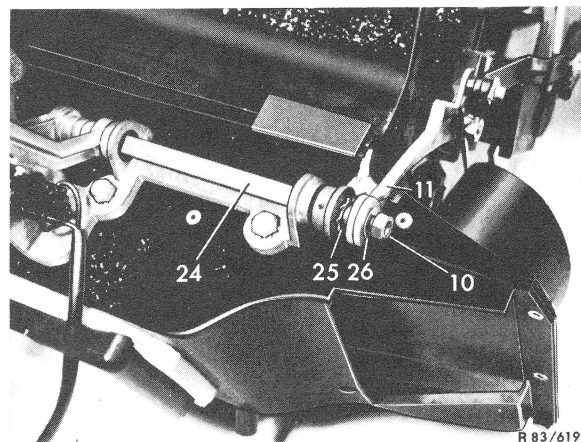

Fig. 8
**Note:** When adjusting the connecting lever (11) (Fig. 8) without assembly aid (23), push both flap actuations in direction of arrow up to stop and hold in this position. The assembly aid is inserted only in replacement heater box.
**34** Place serrated washer (25) and connecting lever (11) on actuating lever (24) (Fig. 8).
**35** Screw-on connecting lever in this position by means of shaft washer (26) and nut (10). Counterhold with open end wrench (SW 8) on actuating lever (24) (Fig. 8 and 9).